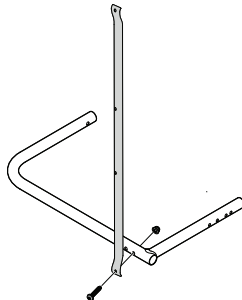

Figure 3
1. Lay one corner tube on a firm, level surface as shown in Figure 3.
2. For the left frame assembly, align one upright tube with the corner tube using the mounting hole and secure with one pan head screw and one hex nut as shown in Figure 3.